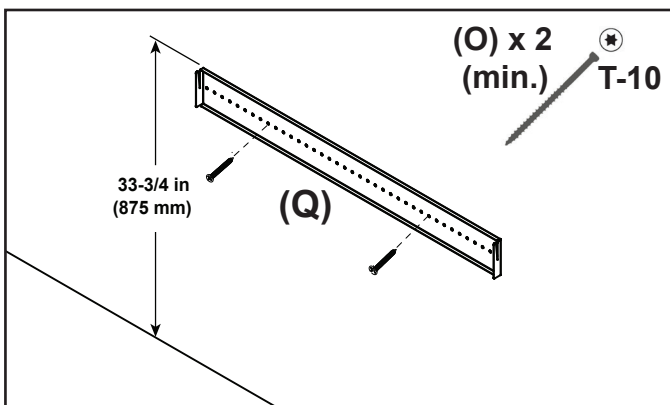

Figure 3
1. Locate studs in the wall behind the appliance. Attach wall bracket to a minimum of two studs using 3" screws (O) at a height of 33-3/4 in. from the floor to the top of the wall bracket. See Figure 3.